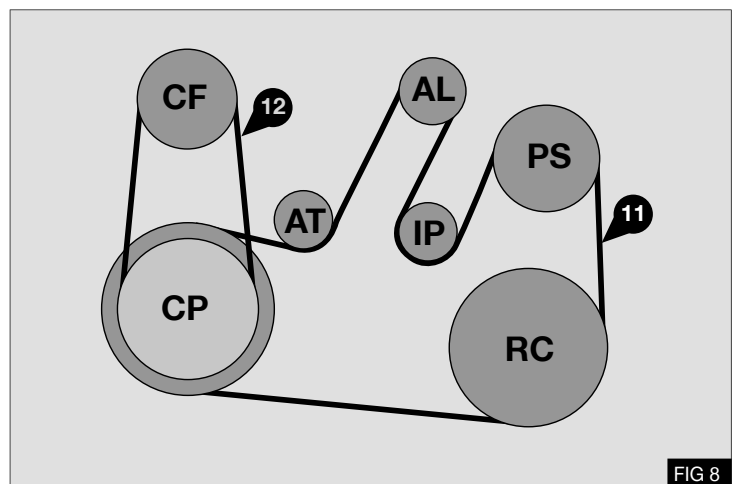

FIG 8
1. Fit the supplied replacement poly groove engine drive belt (11) to the engine in the configuration shown - Fig.8